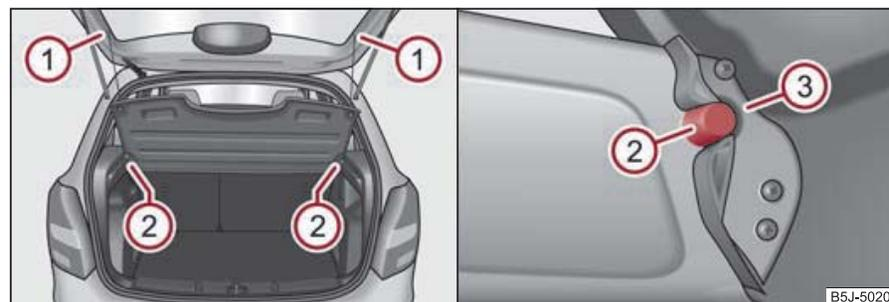

Fig. 60 Remove/install the luggage compartment cover
- Unhook the support straps ① ⇒ page 62, fig. 60.
- Remove the luggage compartment cover from the holders ② by knocking lightly on the bottom side of the cover in the area between the holders.
- To re-install, place the cover on the contact surfaces of the side trim panel and position the mounts on the cover ③ above the holders ② at the side trim panel.
- Attach the support straps ① on the boot lid.